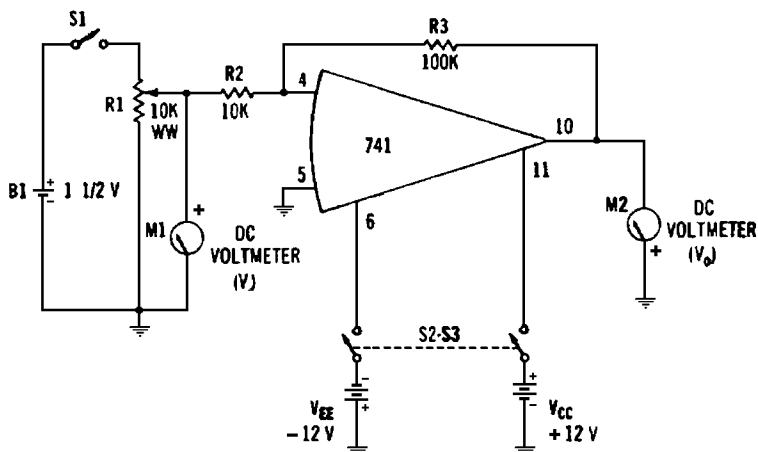

Fig. 2-20. Dc input-voltage range.
### Required Equipment (Fig. 2-20)
1. With switches S1 and S2-S3 open and with potentiometer R1 set to zero, set up the test circuit as shown in Fig. 2-20.